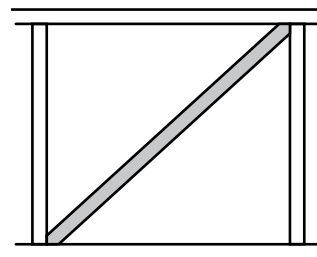

Figure 21
3. Glue the piece in place (Figure 21).